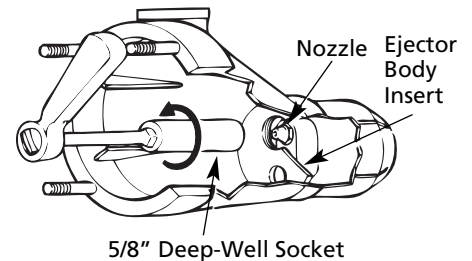

Figure 18 – Unscrew Nozzle
2. If necessary, unscrew and remove nozzle with a 5/8” deep-well socket wrench (See Figure 18).